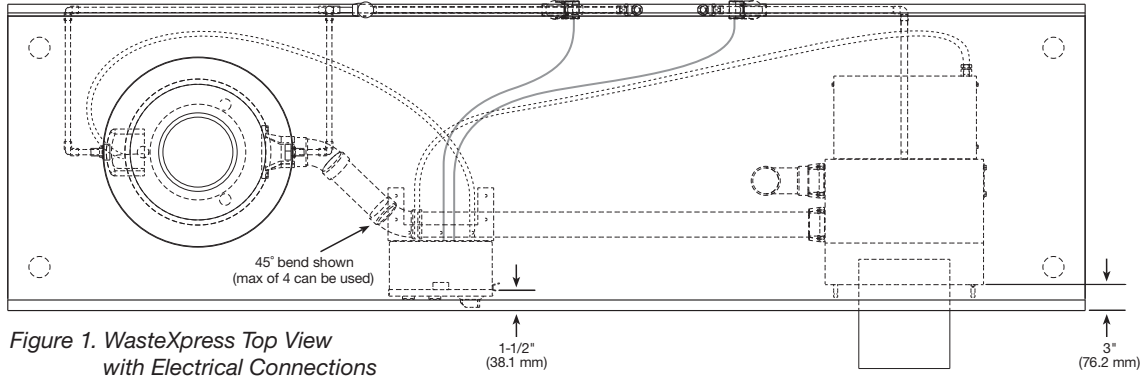
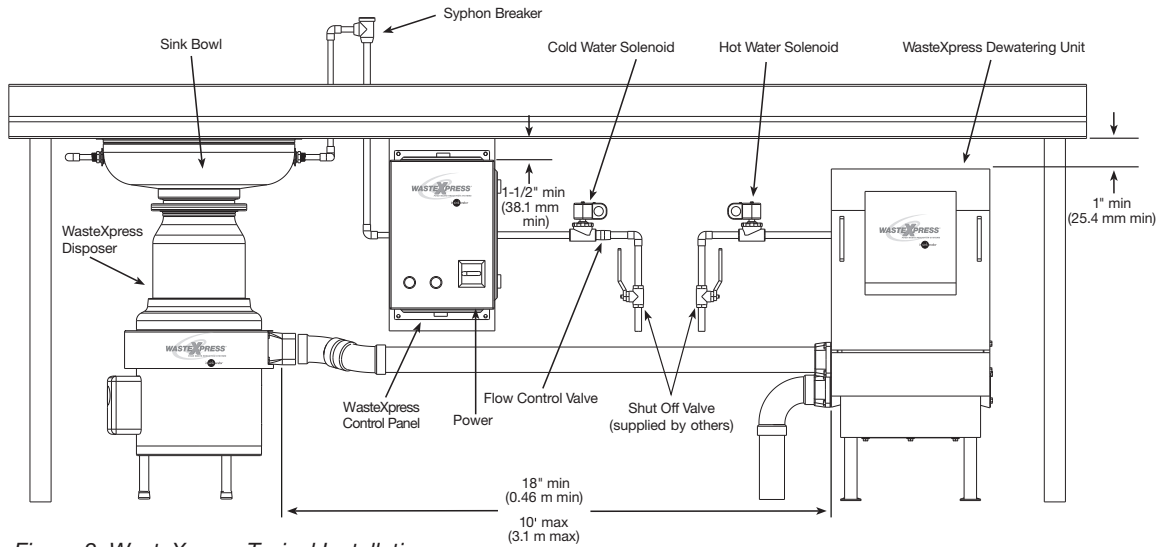

Figure 1. WasteXpress Top View with Electrical Connections
Figure 2. WasteXpress Typical Installation
- For proper removal of discharge chute, ease of cleaning, and general maintenance: Position the dewatering unit with the front surface of the discharge chute recessed 3" (76.2 mm) (see Figure 1) from the front edge of the table and with a minimum clearance of 1" (25.4 mm) between the underside of the table and top of the discharge chute (see Figure 2).
- Position the dewatering unit within 10' (3.1 m) of the disposer outlet flange (see Figure 2).